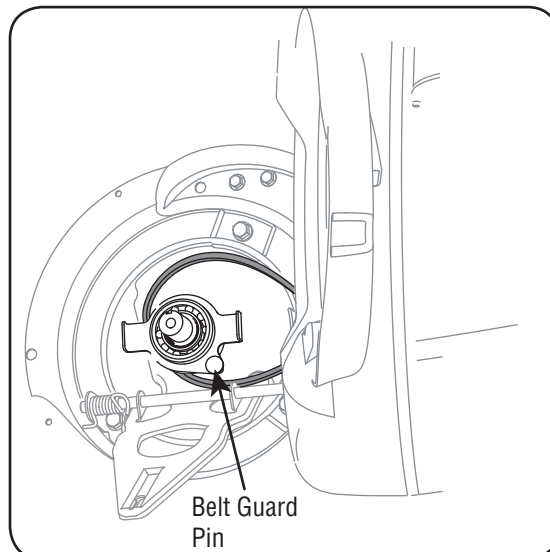

Figure 18
19. Place belt between the two pulley halves on the crankshaft. Make sure to route the belt inside the belt guard pin. See Figure 18.